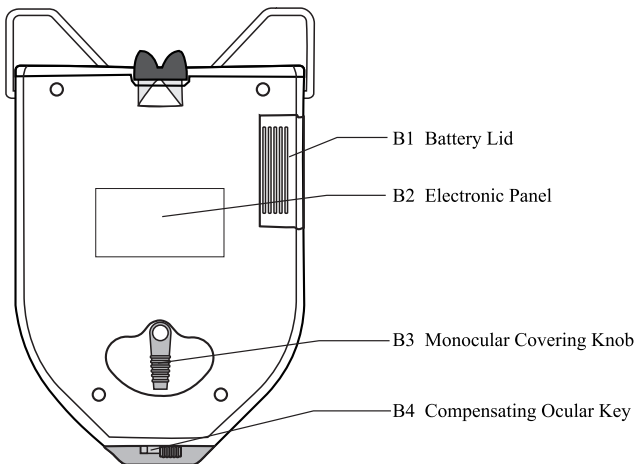
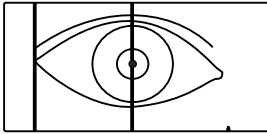
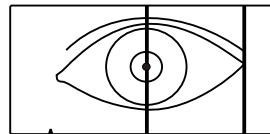

Fig.3
Fig.8a (Measuring right pupillary distance)
Fig.8b (Measuring left pupillary distance)
5.2 Description of rear panel (as shown in Fig.3)
6.4 Measurement of Monocular Pupillary Distance (as shown in Fig.8a and 8b)
distance, please turn the Monocular Covering Knob (as shown in Fig.3 NO.2) which can cover the other eye completely(as shown in Fig.8a and Fig.8b)